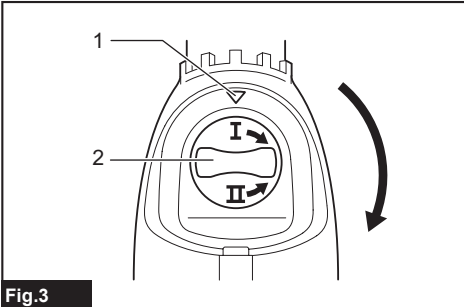

Fig.3
- Fig.3: 1. Arrow 2. Speed change knob